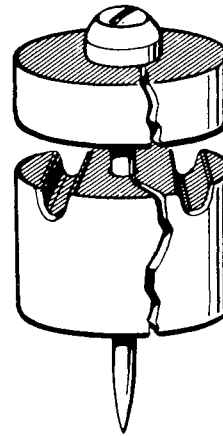

Figure 2
- 4. Cracked or broken insulators (Figure 2) _____